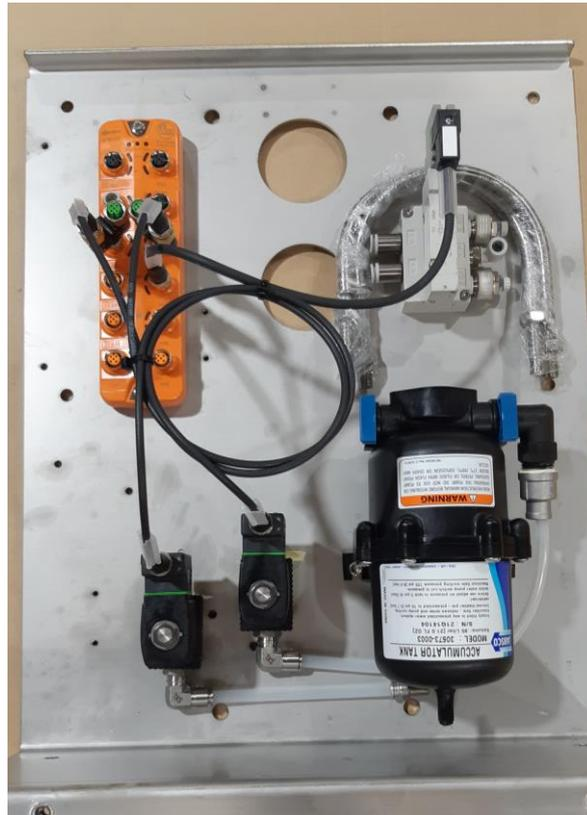

Figure 5
- Connection from the Air Service Unit is made into the Teatwand Extend Solenoid inside the Controls Cabinet. See *Figure 5*.